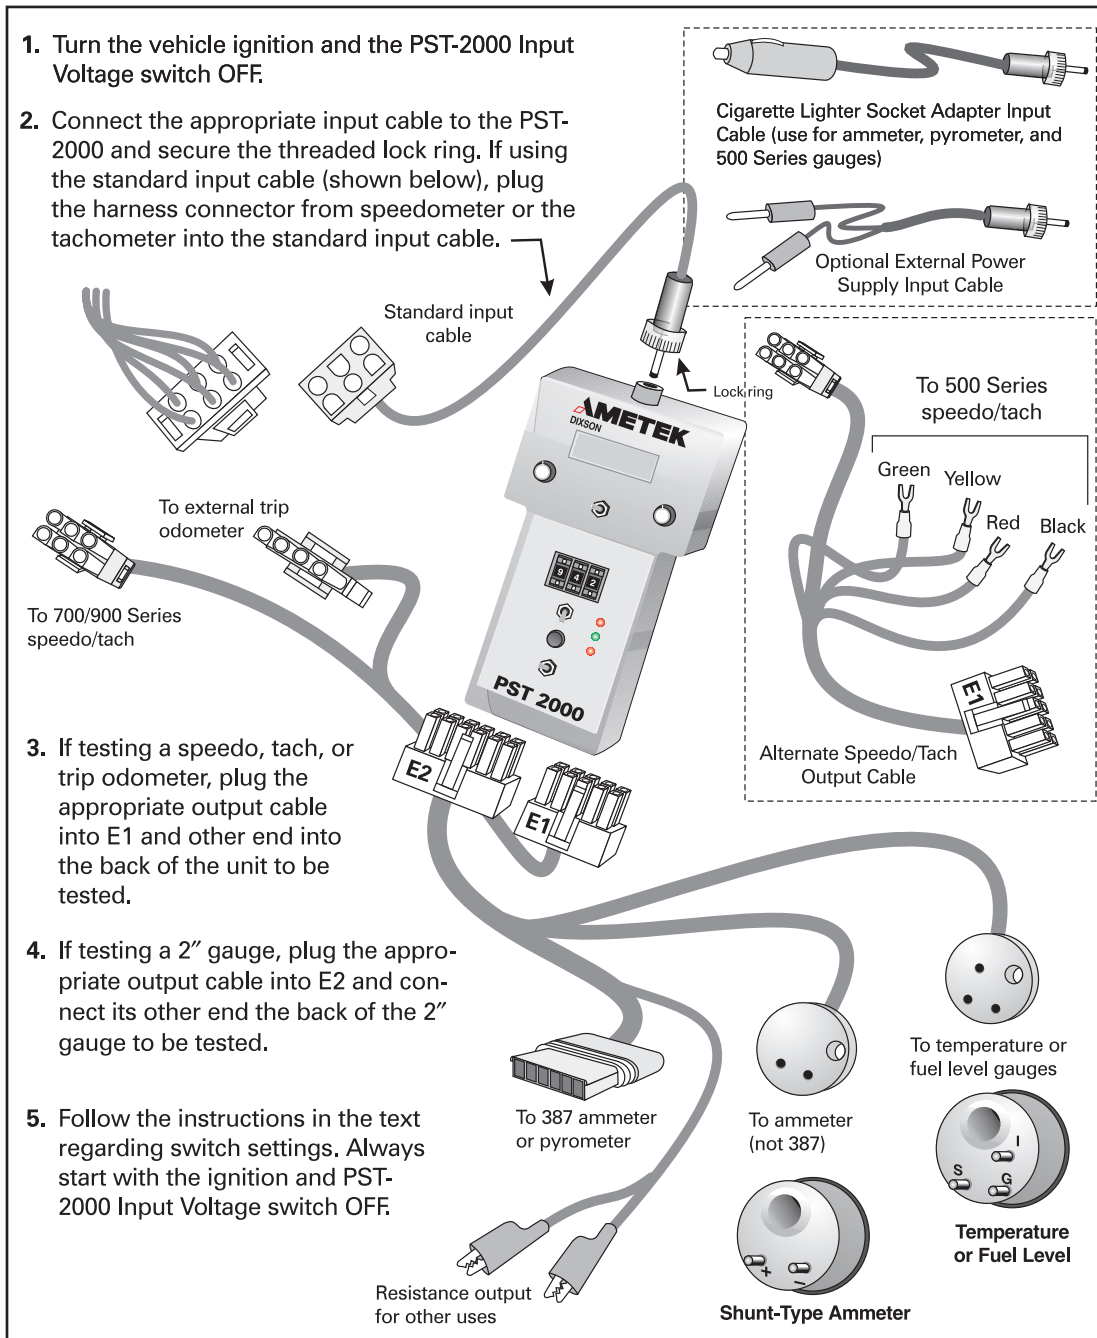

Figure 2 Connecting the PST-2000
The PST-2000 comes with a standard input cable that provides power to the tool, and two standard output cables that send signals to the gauges. Optional input and output cables are available. The cables are connected as shown in Figure 2.
1. Connect the PST-2000 as described in Figure 2. Use the cigarette lighter socket adapter for 500-Series speedometers.
1. Connect the PST-2000 as described in Figure 2.
1. Connect the PST-2000 as described in Figure 2 (500 Series use cigarette lighter socket adapter).